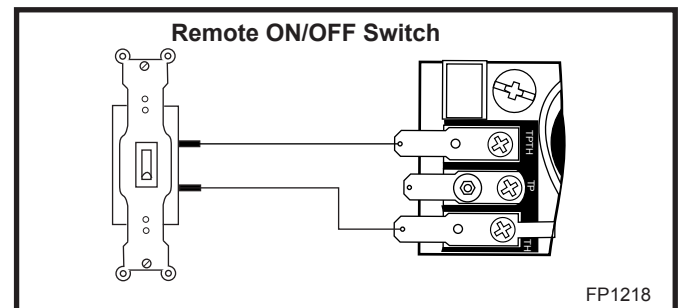

Fig. 6 Remote switch wiring diagram for R models.
3. Connect wiring to gas valve. (Fig. 6)